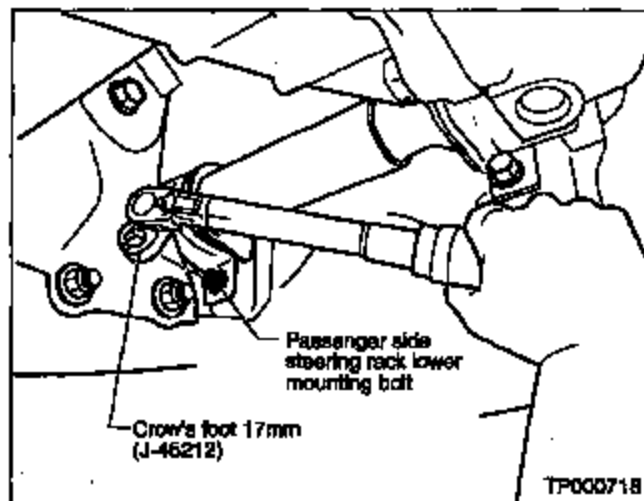

Figure 9
**NOTE:** Tighten the lower bolt of the passenger side bracket, using special tool J-45212 (see Figure 9).